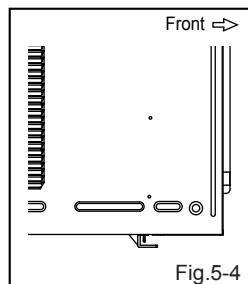

Fig. 5-4
- 4c. Push upward fully to insert pins into slotted areas and secure frame guide.(Fig.5-4)